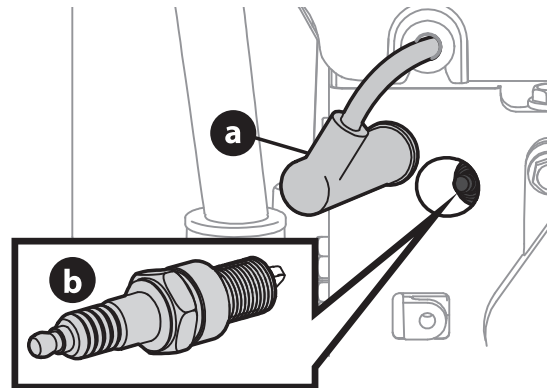

Figure 13
1. Remove the spark plug boot (a) and use a spark plug wrench to remove the spark plug (b) (Figure 13).